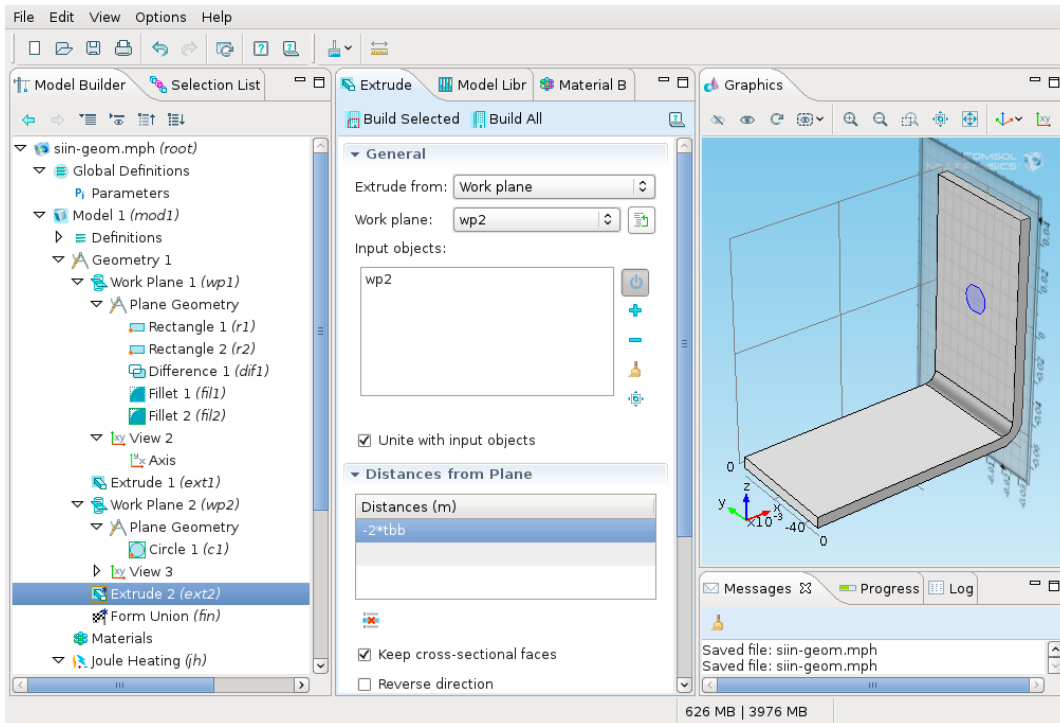

Figure 23: Extruding the polt.
- Continue the constructing of the polt by extruding it (Fig. 23):